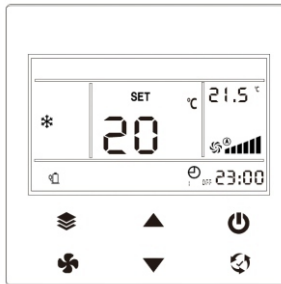

Figure 10. When the timing setting is complete, the latest scheduled task is displayed by default
5. After the scheduled time period is complete, the scheduled time stops blinking and displays the scheduled task that will be executed first. For example, if the current time is 10:00 and the unit is on, the unit shutdown task at 23:00 of period 1 will be executed first. The display interface is shown in Figure 10: